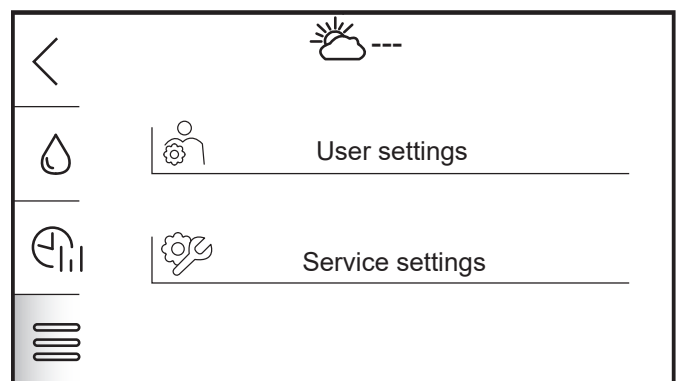

Figure 11.3: Settings selection
3. Tap settings menu. Refer to Table 7-1 and Figure 11-3.
13. Tap settings menu. Refer to Table 7-1 and Figure 11-3.